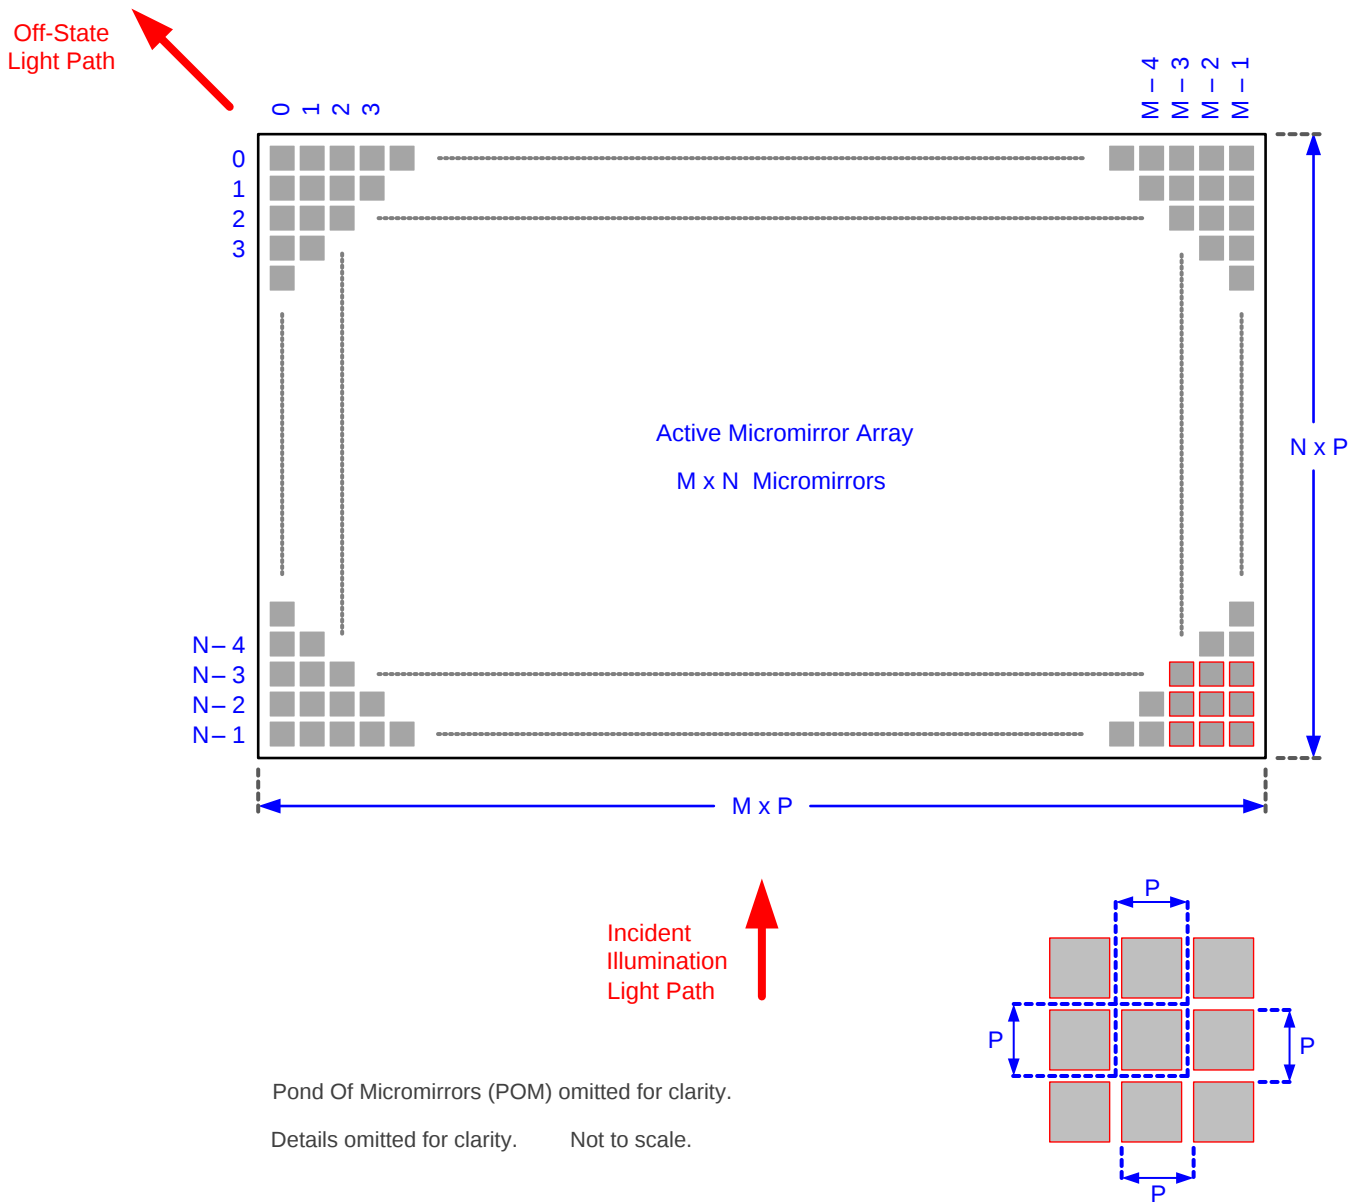

Figure 8. Micromirror Array Physical Characteristics
(1) See Figure 8.
(2) The structure and qualities of the border around the active array includes a band of partially functional micromirrors called the “Pond Of Mirrors” (POM). These micromirrors are structurally and/or electrically prevented from tilting toward the bright or “on” state but still require an electrical bias to tilt toward “off.”